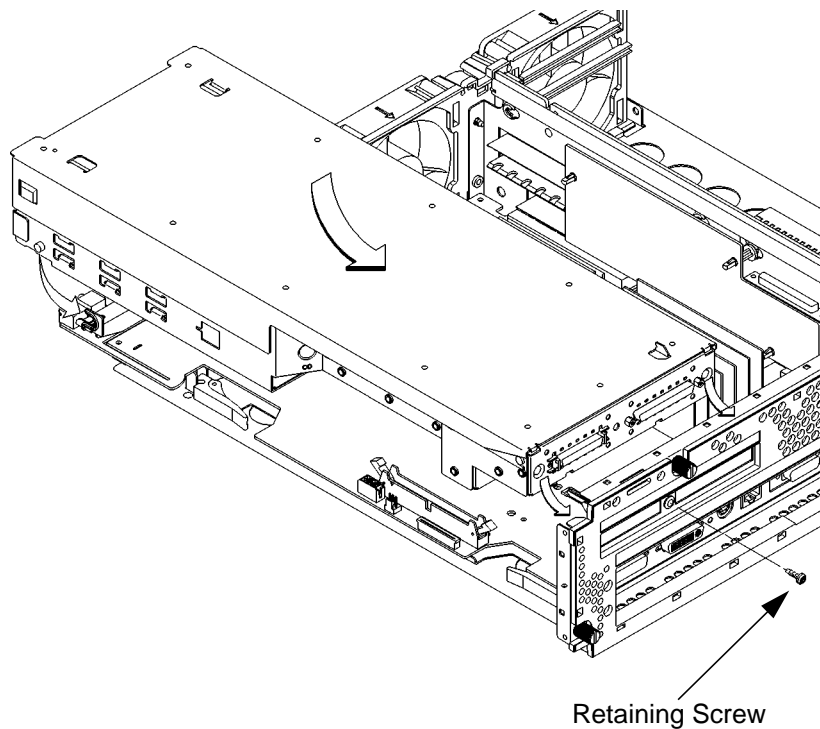

Figure 40
- 1 Align the pins on the back panel of the main tray with the holes on the rear of the storage tray and slide the storage tray onto the pins, as shown in Figure 40.
- 2 Lower the front of the storage and move it slightly forward to align the pins on its side with the slots on the main tray, as shown in Figure 40.
- 3 Slide the storage tray towards the rear of the main tray until the pins are fully seated in the main tray slots, as shown in Figure 40.
- 4 Replace and tighten the storage tray retaining screw, as shown in Figure 40.